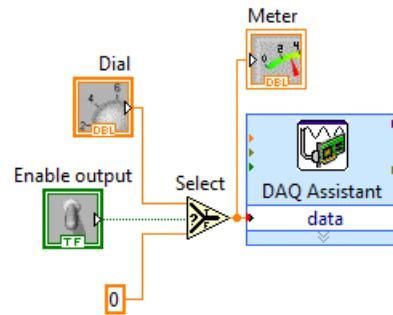

Figure 3.8: Block Diagram for Voltage Generator
4. On the Block Diagram, right click → Comparison → click on the “Select” block and place it in an appropriate location on the Back Panel. Then go to the Front Panel, right click → Numeric → Dial → place the dial on the Front Panel. Then go back to the Back Panel and wire the Dial block to the Select block as shown in Fig. 3.8.
6. Go to the Front Panel, right click → Numeric → Meter → place on Front Panel. Then on the Back (Block diagram) Panel, wire the Meter block to the Select block as shown in Fig. 3.8